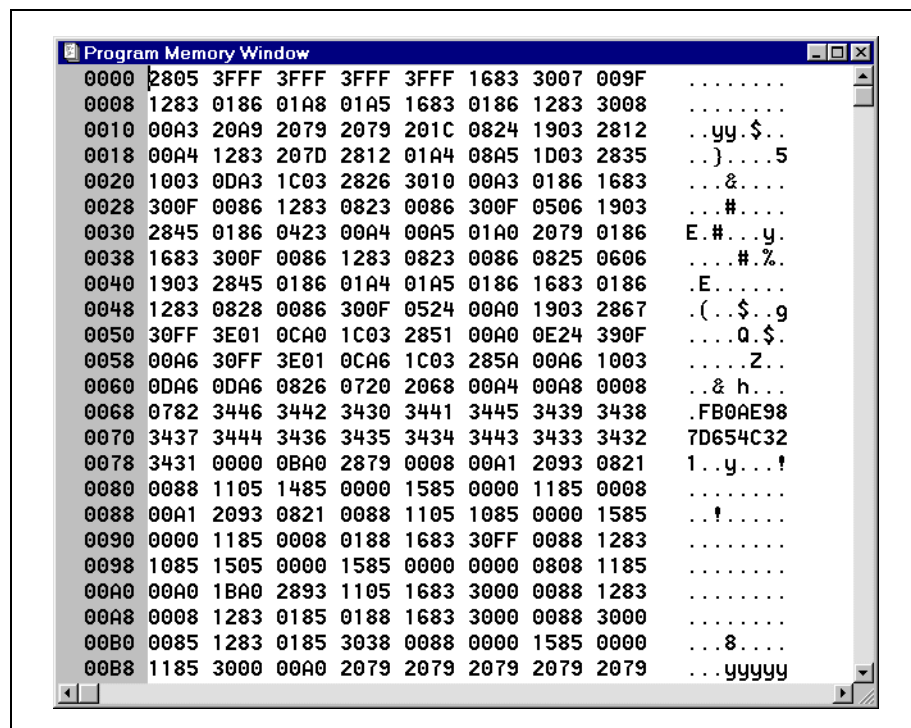

Figure 1.62: Program Memory Window – HEX Code Display
- **HEX Code Display** – This displays the program memory as HEX data. This option is most useful when using a device programmer (Figure 1.62).